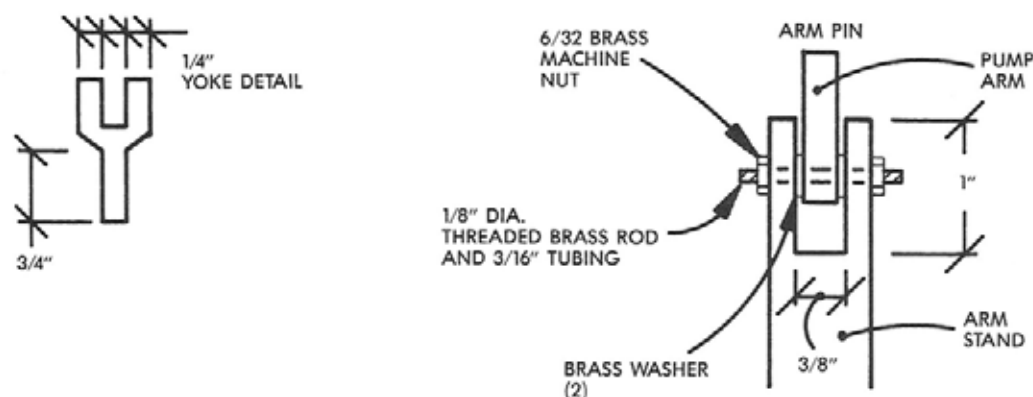

Figure 4-19. Oil Well Pump whirligig detail.
5. Cut out the pump arm and drill a $3/16"$ in. hole centered 5 in. from the front. Insert a piece of tubing to prevent wear. Cut out and attach the yoke $3/4"$ in. from the front and install a screw eye on the bottom (Fig. 4-19). Cut out the
6. Cut out the counterweight, make a 1/4 in. slot in it, and secure it to the end of the arm. Mount the arm on the stand with a 1/8 in. rod 1-1/2 in. long. This rod, threaded for about 1/4 in. at each end and secured with 6/32 machine nuts and washers, will serve as an axle (Fig. 4-19). Because the arm will be heavier at its long end, shave or file the pump head until it almost balances with the counterweight. A slight downward pull on the pump head end is desirable.